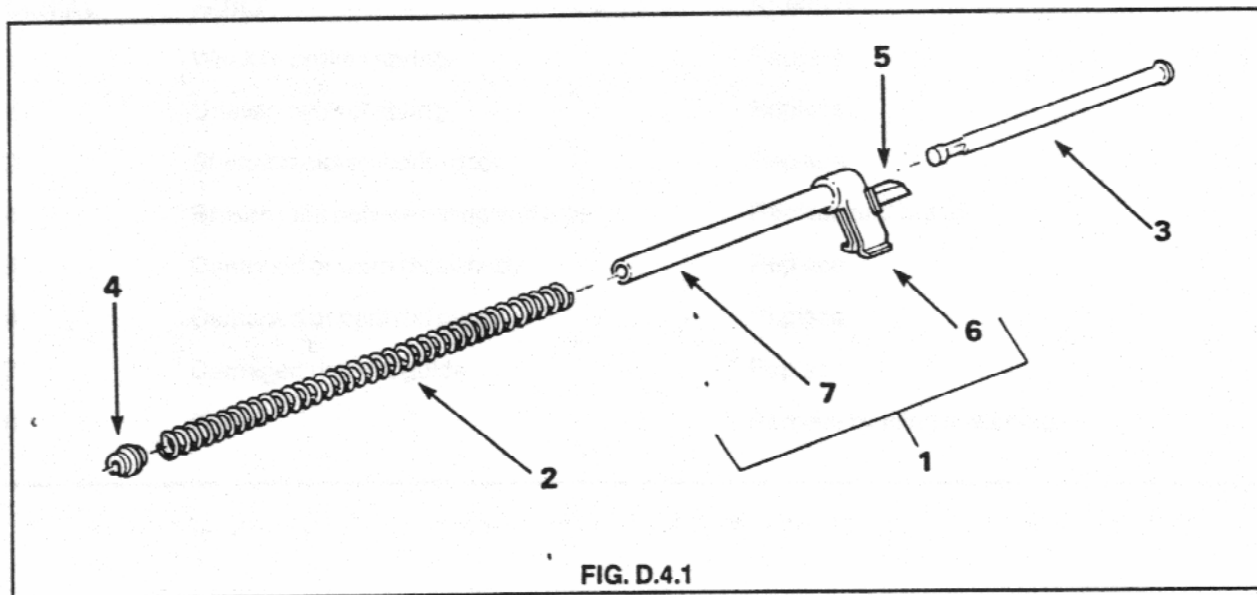

FIG. D.4.1
2. The return spring assembly consists of the following components, as illustrated in Fig. D.4.1.